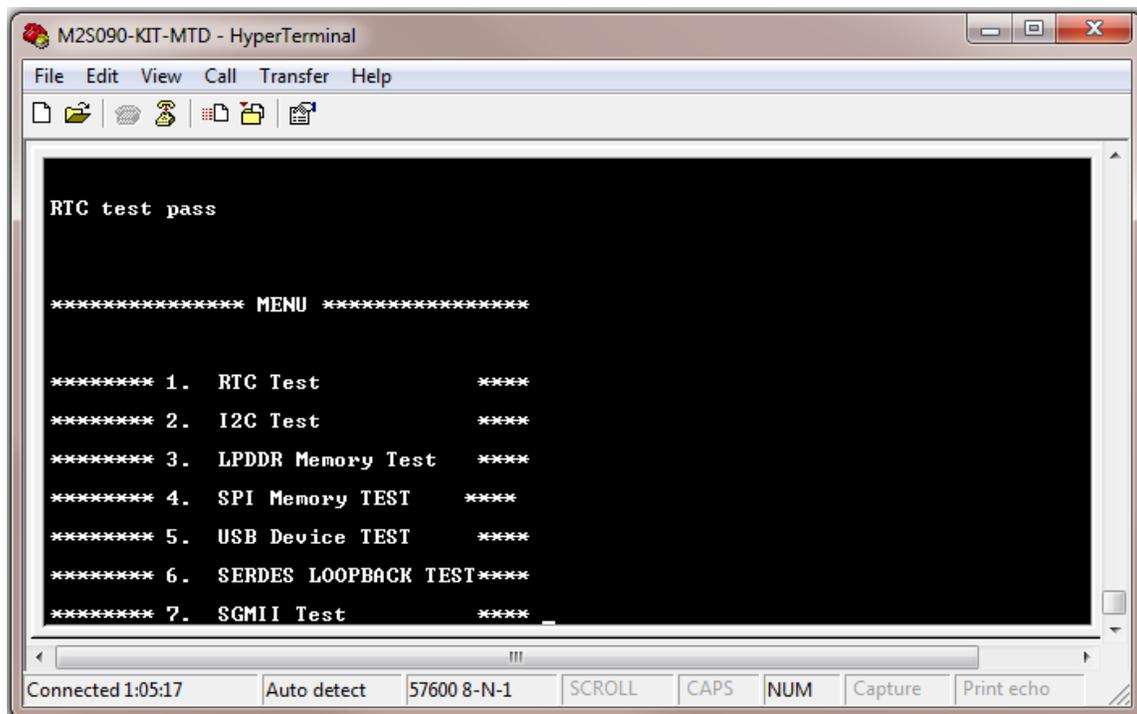

Figure 39 RTC Test Passed
4. When the test is passed, a message is displayed as shown in Figure 39.